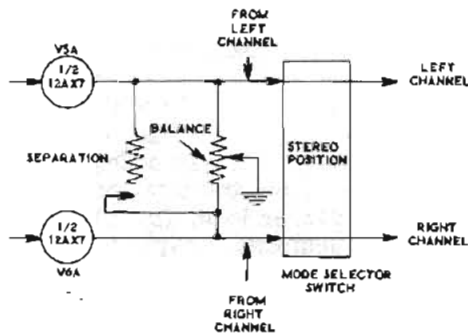

Figure 2A
Signals in both channels are next applied to the MODE SELECTOR switch. Figures 2A through 2D illustrate the functions of this switch in each
**STEREO NORMAL** position: See Figure 2A. Signals from the Left Channel and the Right Channel inputs are fed straight through to the Left Channel output and the Right Channel output, respectively.